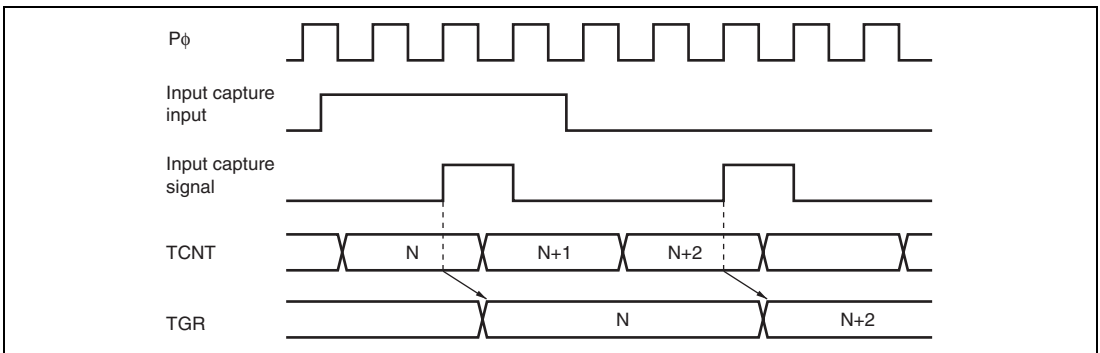

**Figure 11.59 Input Capture Input Signal Timing**
**Input Capture Signal Timing:** Figure 11.59 shows input capture signal timing.